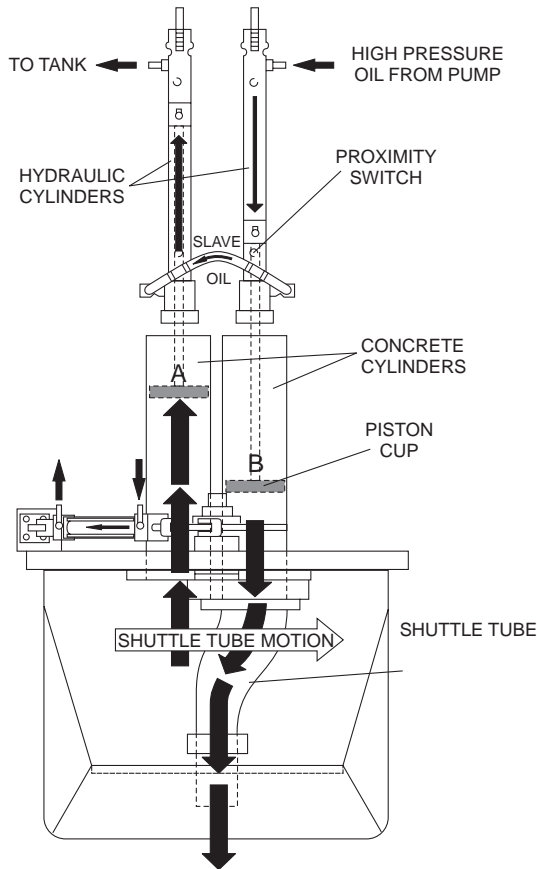

Figure 3. Pumping Cycle 1
In the first cycle (Figure 3), hydraulic pressure is applied to cylinder (B) causing the hydraulic piston, which is connected to the concrete piston and piston cup, to discharge concrete into the delivery line.